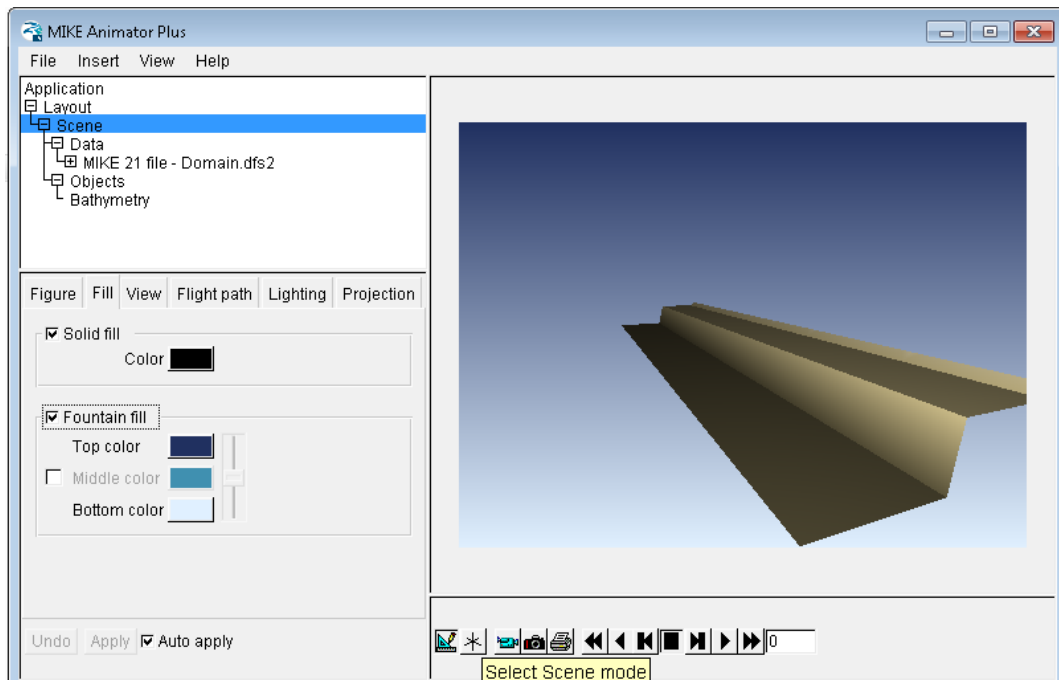

Figure 2.34 View of domain bathymetry after changing the fill colour and viewpoint
5. 'Select Scene mode' in the toolbar as shown in Figure 2.34 and change the viewpoint by click-and-drag in the graphics window.